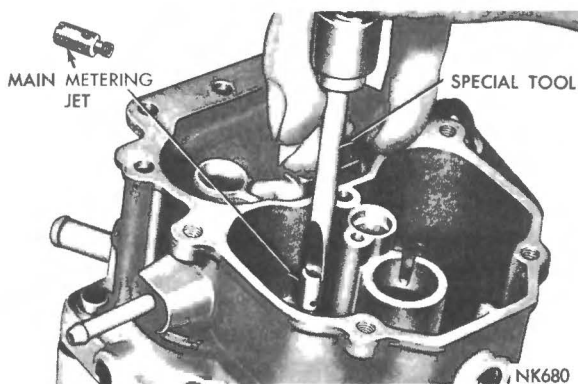

Fig. 3 Removing or Installing Main Metering Jets
(12) Remove the main metering jets, as shown in (Fig. 3).